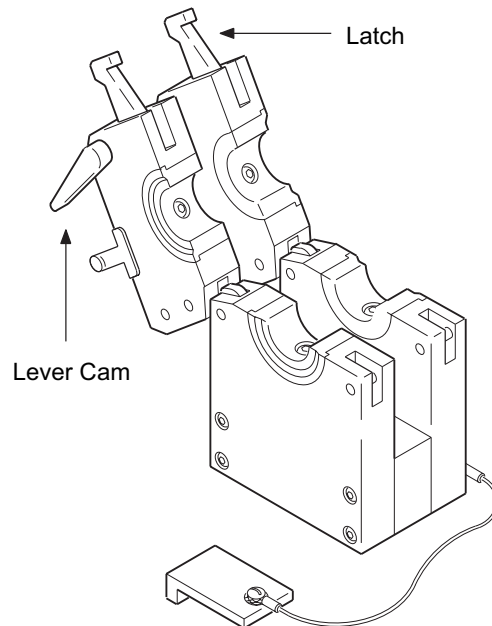

Figure 27 Lever Cam and Latch
6. Check the lever cam and latch for smooth operation. See Figure 27.